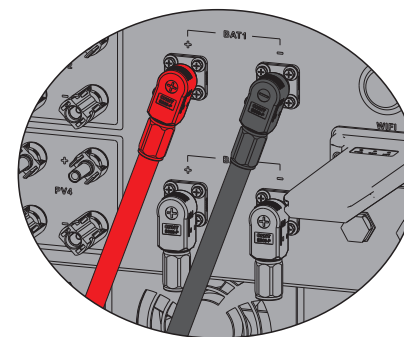

Figure 4.2-6 The battery terminal is connected to the inverter
Step 4. Connect the battery terminal to the inverter. Ensure that the battery polarity is connected correctly, as shown in Figure 4.2-6.